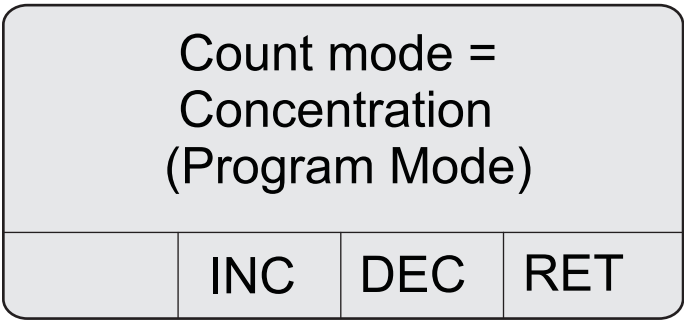

Figure 20 Count mode screen
2. Press 2 (NXT) to display the Count mode screen (refer to Figure 20).